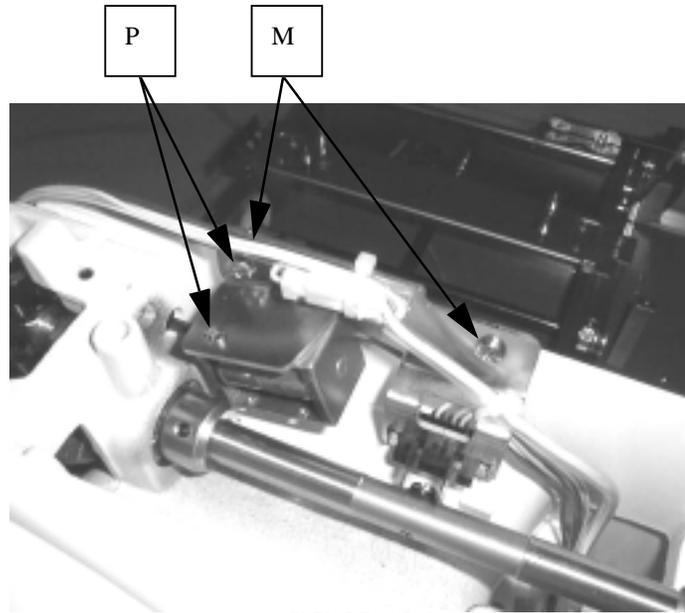

FIGURE 10-9
- I. For replacing the solenoid, remove the solenoid from the set plate by removing setscrews (M) and setscrews (P) shown in Fig.10-9.